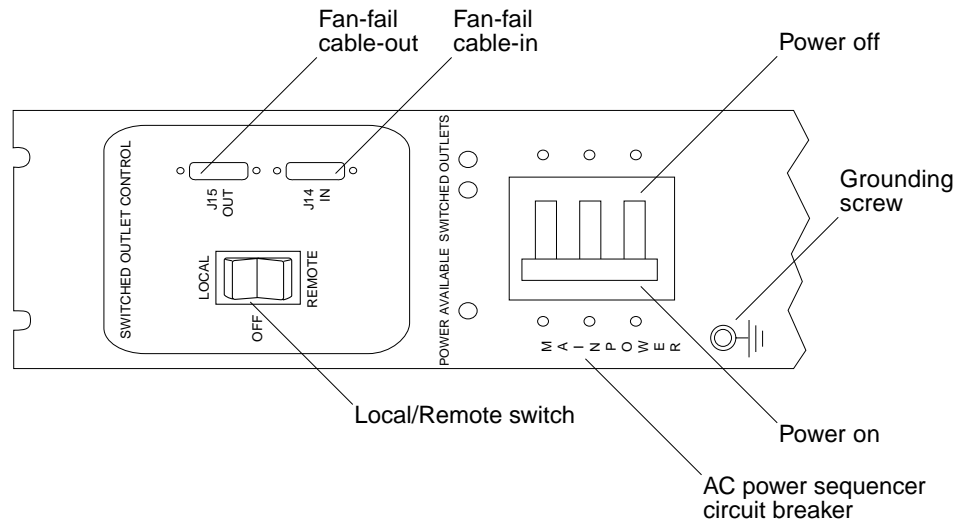

FIGURE 4-2 Power Sequencer Control Panel
1. Verify that each AC power sequencer circuit breaker is in the Off position and that the Local/Remote switch is in the Local position (FIGURE 4-2).